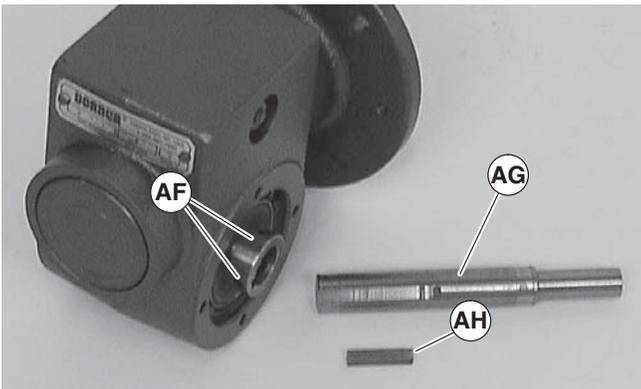

Figure 17
- Remove two (2) screws (AC) and detach output shaft cover (AD).
- Loosen six (6) set screws (Figure 17, item AF). Remove drive shaft (AG) and key (AH).
- Remove gear reducer output shaft key (AE).
- Replace the original shaft (Figure 17, item AG) and key (AH) into new gear reducer. Tighten set screws (AF) to 26 in-lb (3 Nm).